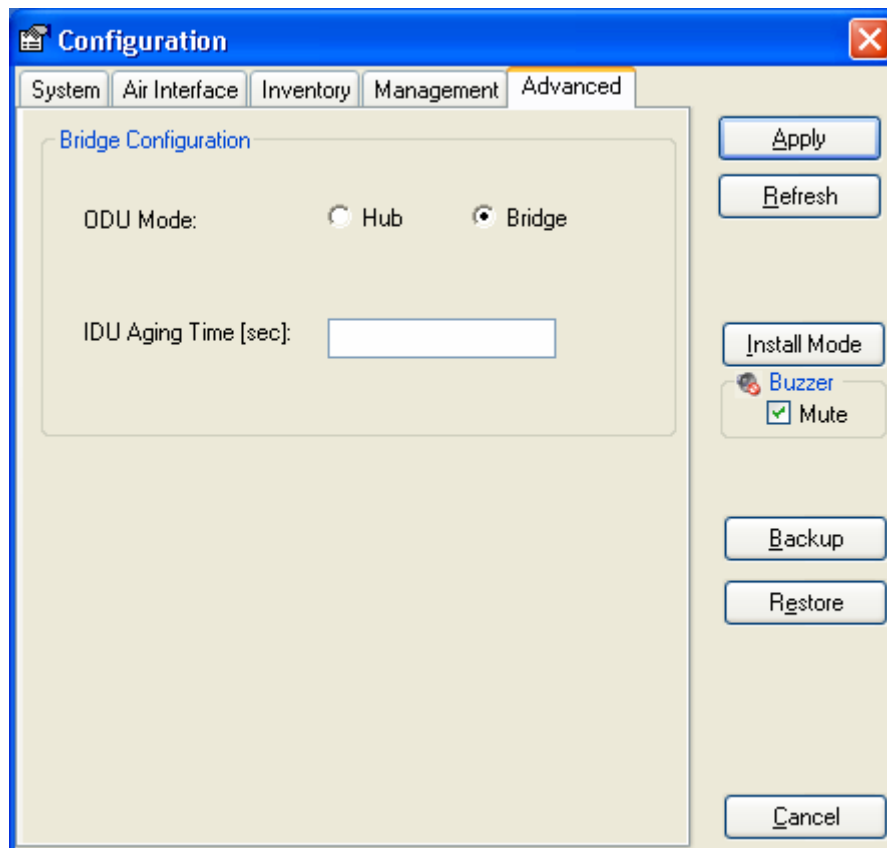

Figure 3-17. Site configuration dialog box
The bridge configuration parameters are available from the Advanced tab of the site configuration dialog box (Figure 3-17 ). There are two parameters:
- Bridge Mode (default) (Figure 3-17 ). In "bridge" mode the ODU performs both learning and aging, the aging time of the ODU is fixed.